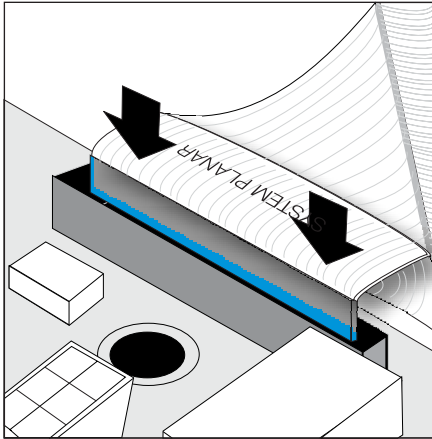

Figure 107. Install service controller cable into the system board
- a. Use all the parts in the system board FRU kit (system board, processors (2), VRM, riser card). Re-use only the four memory modules that you removed in step 6 on page 164 and the two adapter assemblies that you removed in step 4 on page 164.
- e. CAREFULLY install the end of the ribbon cable (marked "System Planar") to the system board being sure to install the cable straight in. See Figure 107 on page 166. Be sure to verify that the blue line on the cable connector end is not visible.